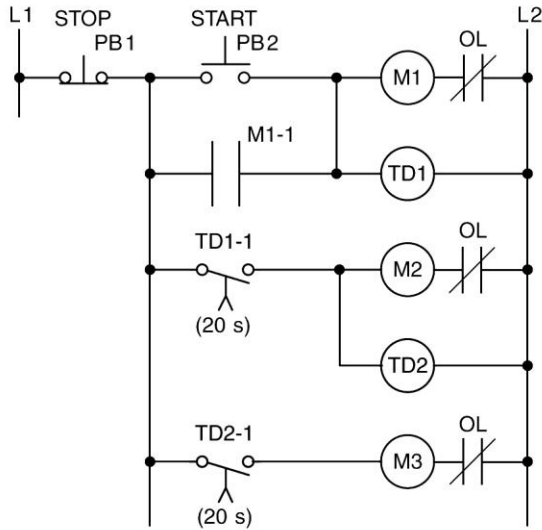

Figure 7-29 Hardwired sequential delayed motor starting circuit for assignment 13.
13) Prepare an I/O connection diagram and ladder logic program to execute the hardwired sequential time delayed motor starting circuit shown in Figure 7-29. Enter the program into the PLC, and prove its operation.